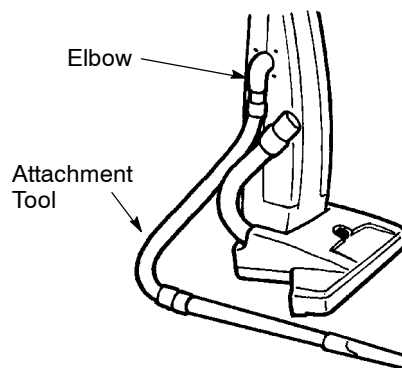

FIG. 6
3. Connect attachment tool vacuum hose to elbow and desired tool to opposite end (Figure 6).